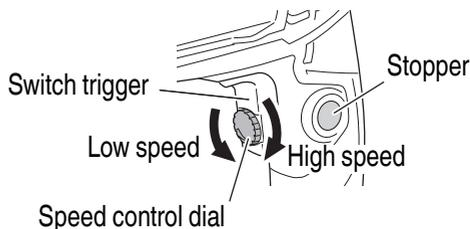

Fig. 9
- The desired rotation speed can be pre-selected with the speed control dial. Turn the speed control dial clockwise for higher speed and counterclockwise for lower speed. (Fig. 9)